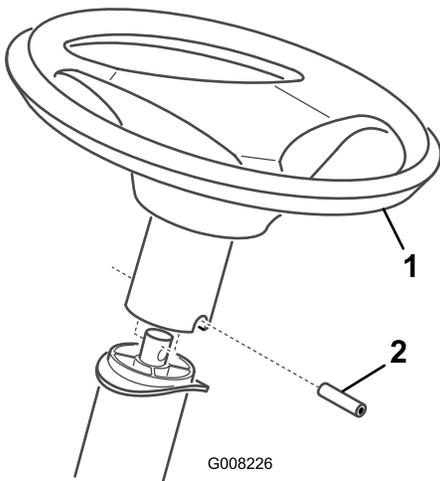

Figure 5
2. Slide the steering wheel over the steering shaft and line up the hole in the steering wheel with the hole in the shaft (Figure 5).
4. Insert the spirol pin into the hole on the opposite side (Figure 5).
5. Using a hammer, drive the spirol pin in until it is flush with the outside of the steering wheel (Figure 5).